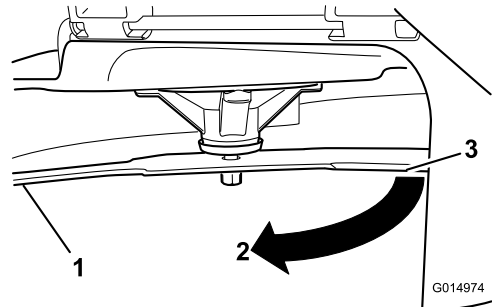

Figure 57
4. Rotate the same blade 180 degrees so that the opposing cutting edge is now in the same position (Figure 57).